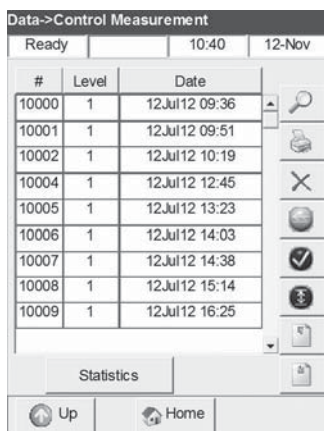

Fig. 4-36 Control Measurement
3. In the **<Data - Control Measurement>** screen (Fig. 4-36), press the button to display the Control results (Fig. 4-37). Use the and buttons to display the previous or next page of results.
4. To print individual results, highlight the desired measurement (Fig. 4-36). To print groups of results, highlight the first measurement to be printed, press , then select the last measurement to be printed. All the measurements in between will be selected. Press to select all results.